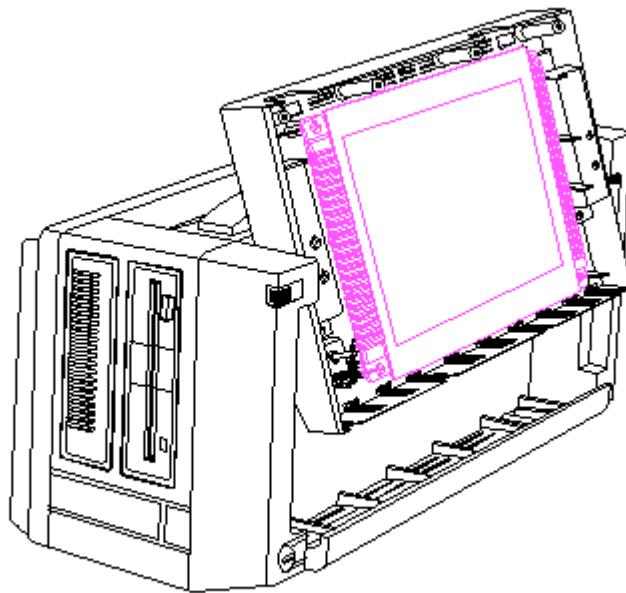

Figure 8-73. Plasma Display Location
6. Locate the plasma display shown in Figure 8-73.